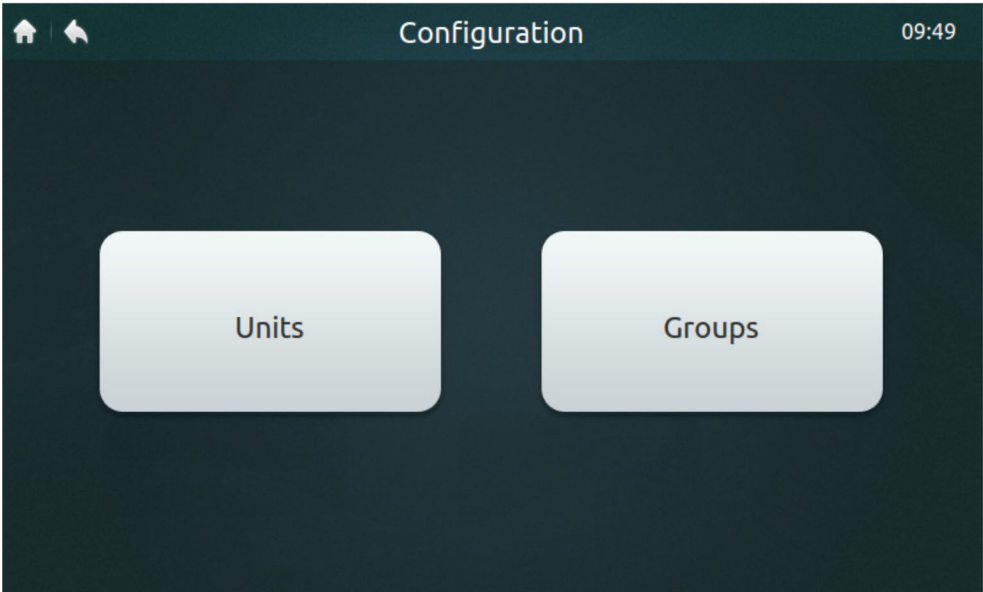
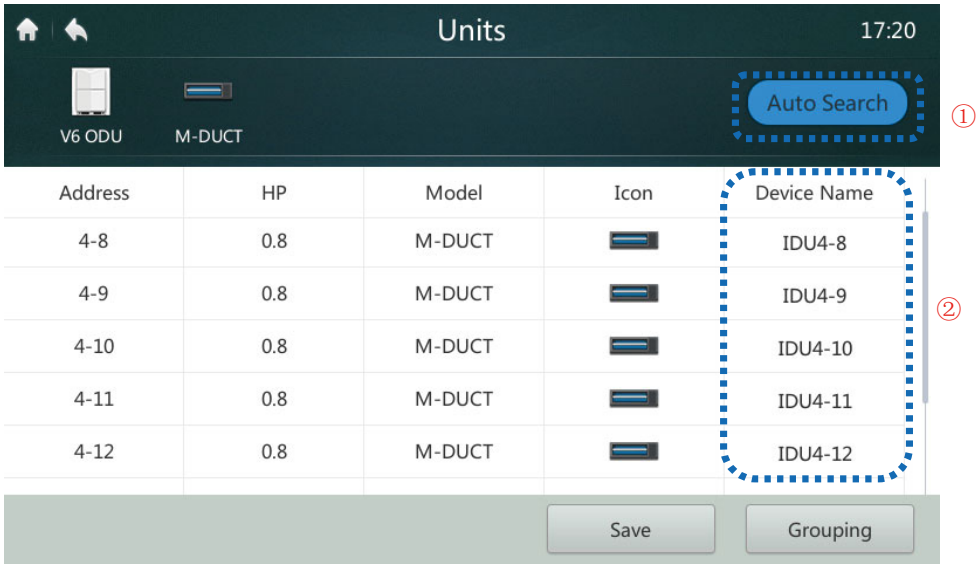
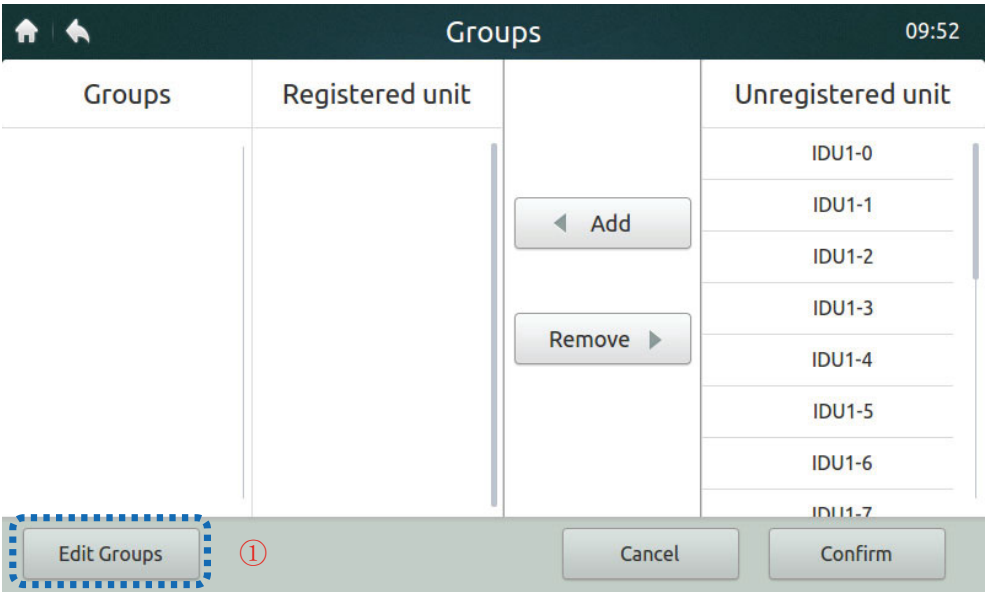
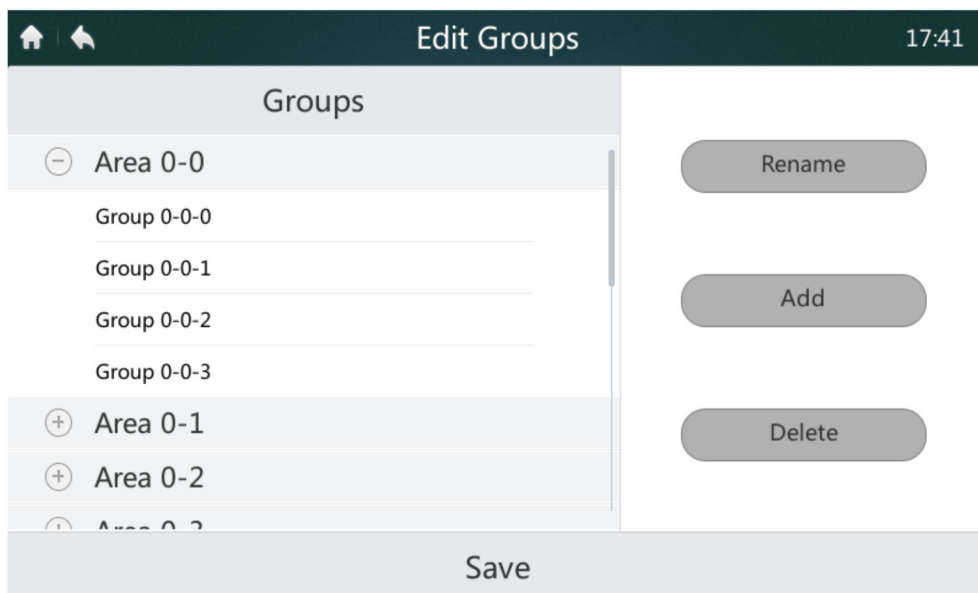

Figure 35 Homepage of Installation interface
Figure 36 Device installation page
Figure 38 Homepage 1 of Group View page
Figure 39 Editing a group
1. Tap the "Units" button, as shown in Figure 35, to enter the interface, as shown in Figure 36.
2. Tap the "Auto Search" button marked "1" in Figure 36. The connected device will be displayed on the interface. The table displays the IDU HP, IDU type (the correct type can be displayed correctly for second-generation IDUs only. Other types are first-generation IDUs), type icon (the correct type can be displayed correctly for the second-generation IDUs only. The Four-way Cassette icon is displayed for other units), and device name.
marked "2" in Figure 36 to display the input keyboard in the lower part of the screen, as shown below. Edit the device name of the corresponding address, and tap "Confirm".
- 1. Tap the "Groups" button marked "2" in Figure 35 to access the group view page in Figure 38. Figure 38 shows the interface where no groups are created.
2. First create a group. Tap the "Edit Groups" button marked "1" in Figure 38 to access the interface shown in Figure 39.
3. Groups can be classified into two levels (e.g.: level 1 - Area; level 2 - Group). Up to 10 groups can be created at level 1. Up to 5 groups can be created at level 2. Tap the **"Add"** button, as shown in Figure 38, to add the first level group by default. Tap to select the first level Area. Tap the **"Add"** button to add the second level group. To delete a group, select this group, and tap "Delete".
4. Select a group and tap **"Rename"**, as shown in Figure 39, to edit the selected group name.
5. Tap the **"Save"** button, as shown in the lower part of Figure 39, to save the edited information.